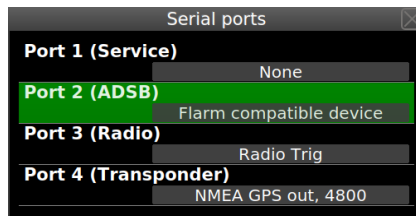

Figure 37: Serial port configuration window.
4. Select the *Serial ports* item. Figure 37 illustrates the window.
Configure the transponder RS-232 part to *NMEA* and set data rate to *4800*. Also, set Aetos port to *NMEA GPS out, 4800*, see Figure 37.